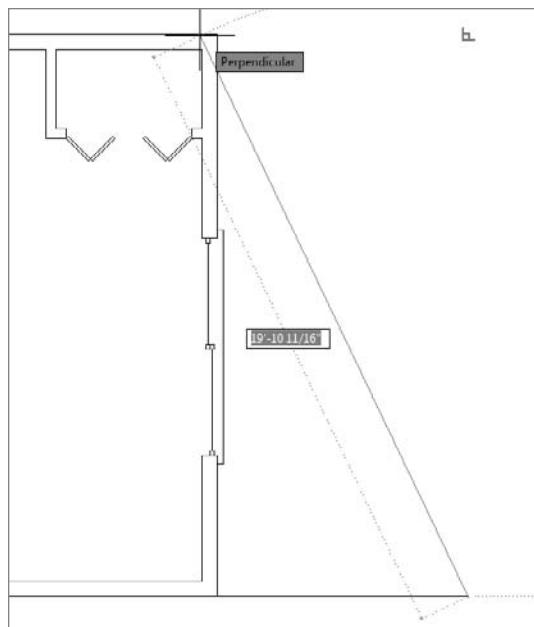

FIGURE 5.16 Drawing the vertical line perpendicular to the upper cabin wall
8.  Click the Snap To Perpendicular button in the Object Snap toolbar, place the cursor over the top-outside horizontal line of the cabin, and when the Snap marker appears (see Figure 5.16), click to draw the vertical line of the deck's perimeter.